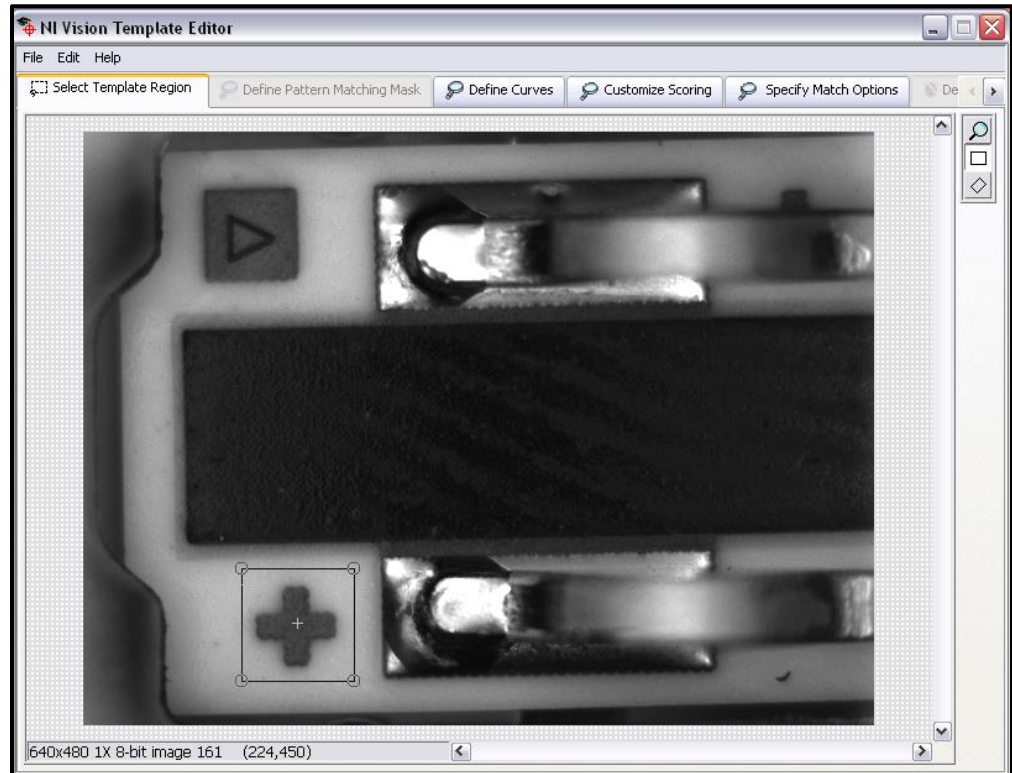

Figure 53. Draw a template region on the image.
3. Select an existing template by clicking Select Template or create a new one by clicking New Template. Template Editor window will open [Figure 53].